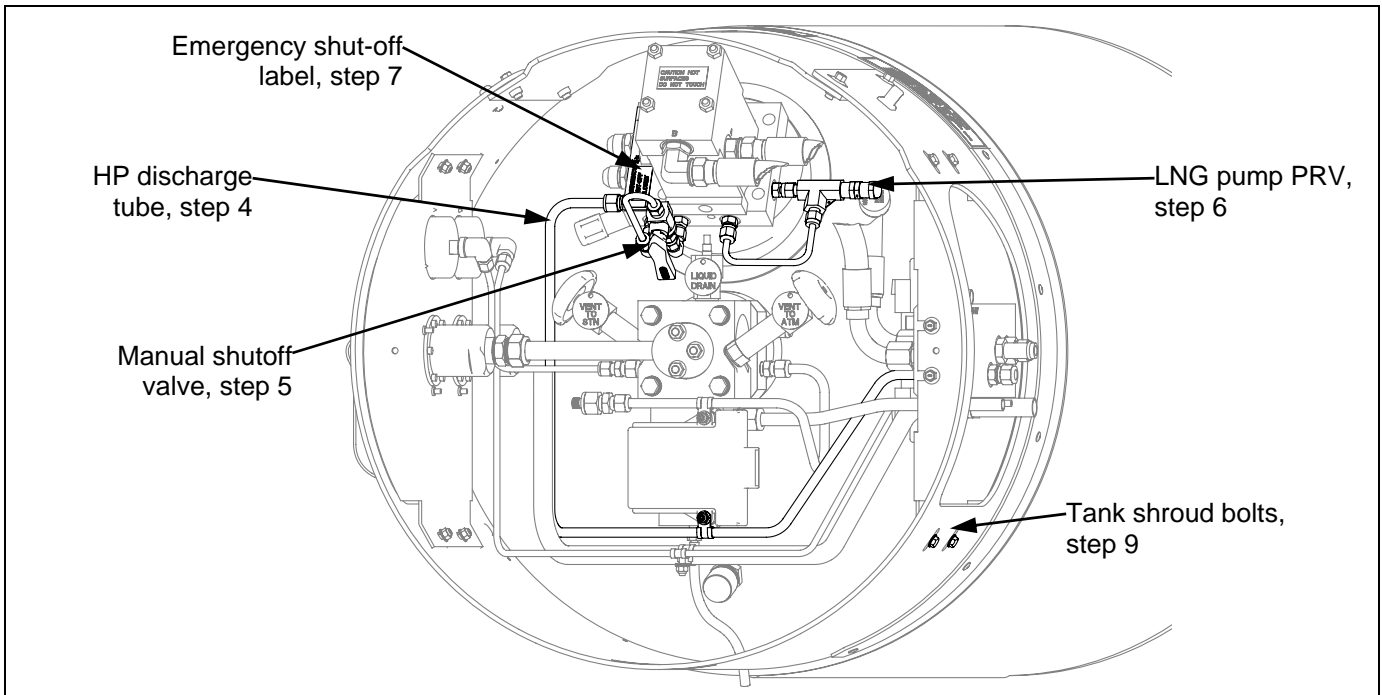

Figure 1: Components to be removed from tank (LHS tank shown)
Refer to Figure 1 for steps 4-7
9. Remove the two (2) tank shroud fasteners indicated in Figures 1 & 2.